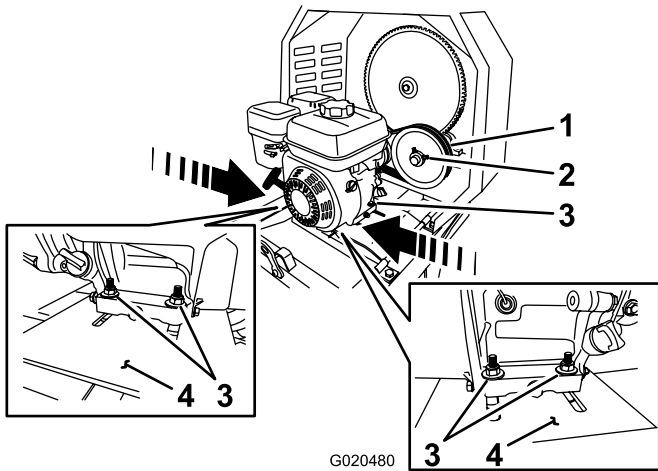

Figure 57
- B. Loosen the nuts and bolts that secure the engine to the engine deck (Figure 57).
- **Increase the air gap**—move the engine away from the idler pulley (Figure 57).
- **Decrease the air gap**—move the engine toward the idler pulley (Figure 57).